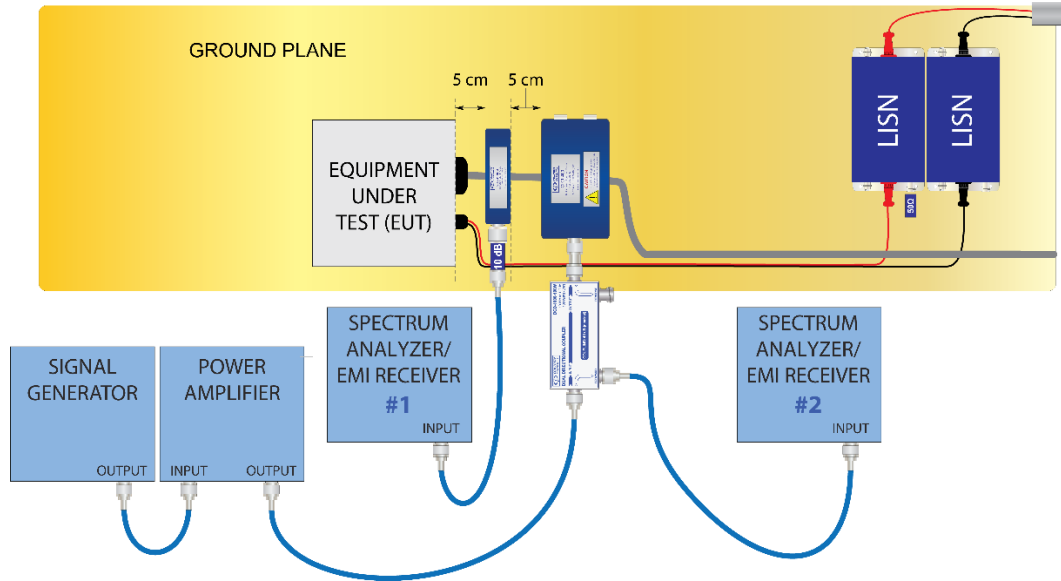

Figure 16 –Example Test Setup Diagram for EUT Testing
- 1) Set up the equipment as described in the applicable standard or approved test plan. An example setup diagram is given in Figure 16. Refer to MIL-STD-461G or the applicable test plan to determine the EUT cables to be tested.